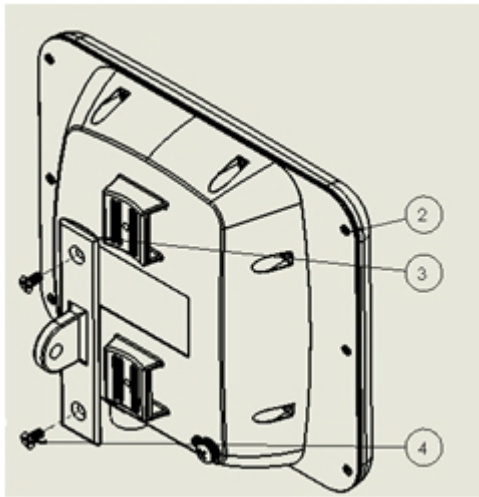

Figure 3-41: Securing the mounting adapter
1. Referring to Figure 3-41 below: Secure the adapter (3) to the rear of the HSU (2) using the two screws provided (4). Use a Phillips screwdriver set to a torque of 2.0 NM.